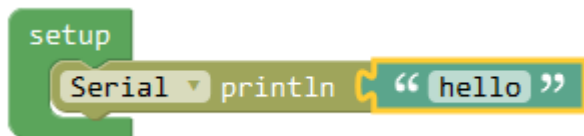

Figure 1-6-1
- 1) Control building blocks are the building blocks that control the execution process of the program. The main program is shown in Fig. 1-6-1.
Starterbot is a library we wrote for Starterbot. After importing the library, it will appear in the library module area below the basic module area. Click on it and it will appear various small building blocks, as shown in Figure 1-6-1-1. Next, we will learn how to write programs for Starterbot by assembling these modules.